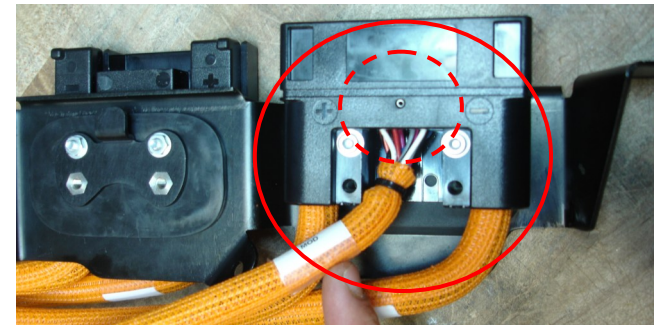
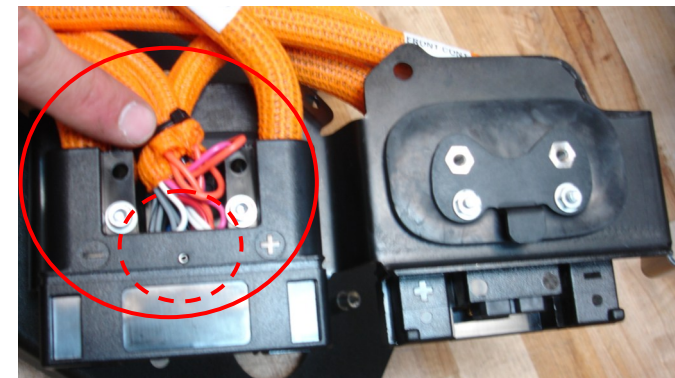

Figure 10
Figure 11
6. Route REAR MOD cable through bracket and plug connector to LOWER female insert as is FIGURE 11. Insert SPIROL PIN (ITEM 10) thru X BIKE HARNESS (ITEM 7) and into HARN X MBB CTRL CHS 2X-MOD MY13 (ITEM 9). See the **dashed** location in FIGURE 10 and 11.